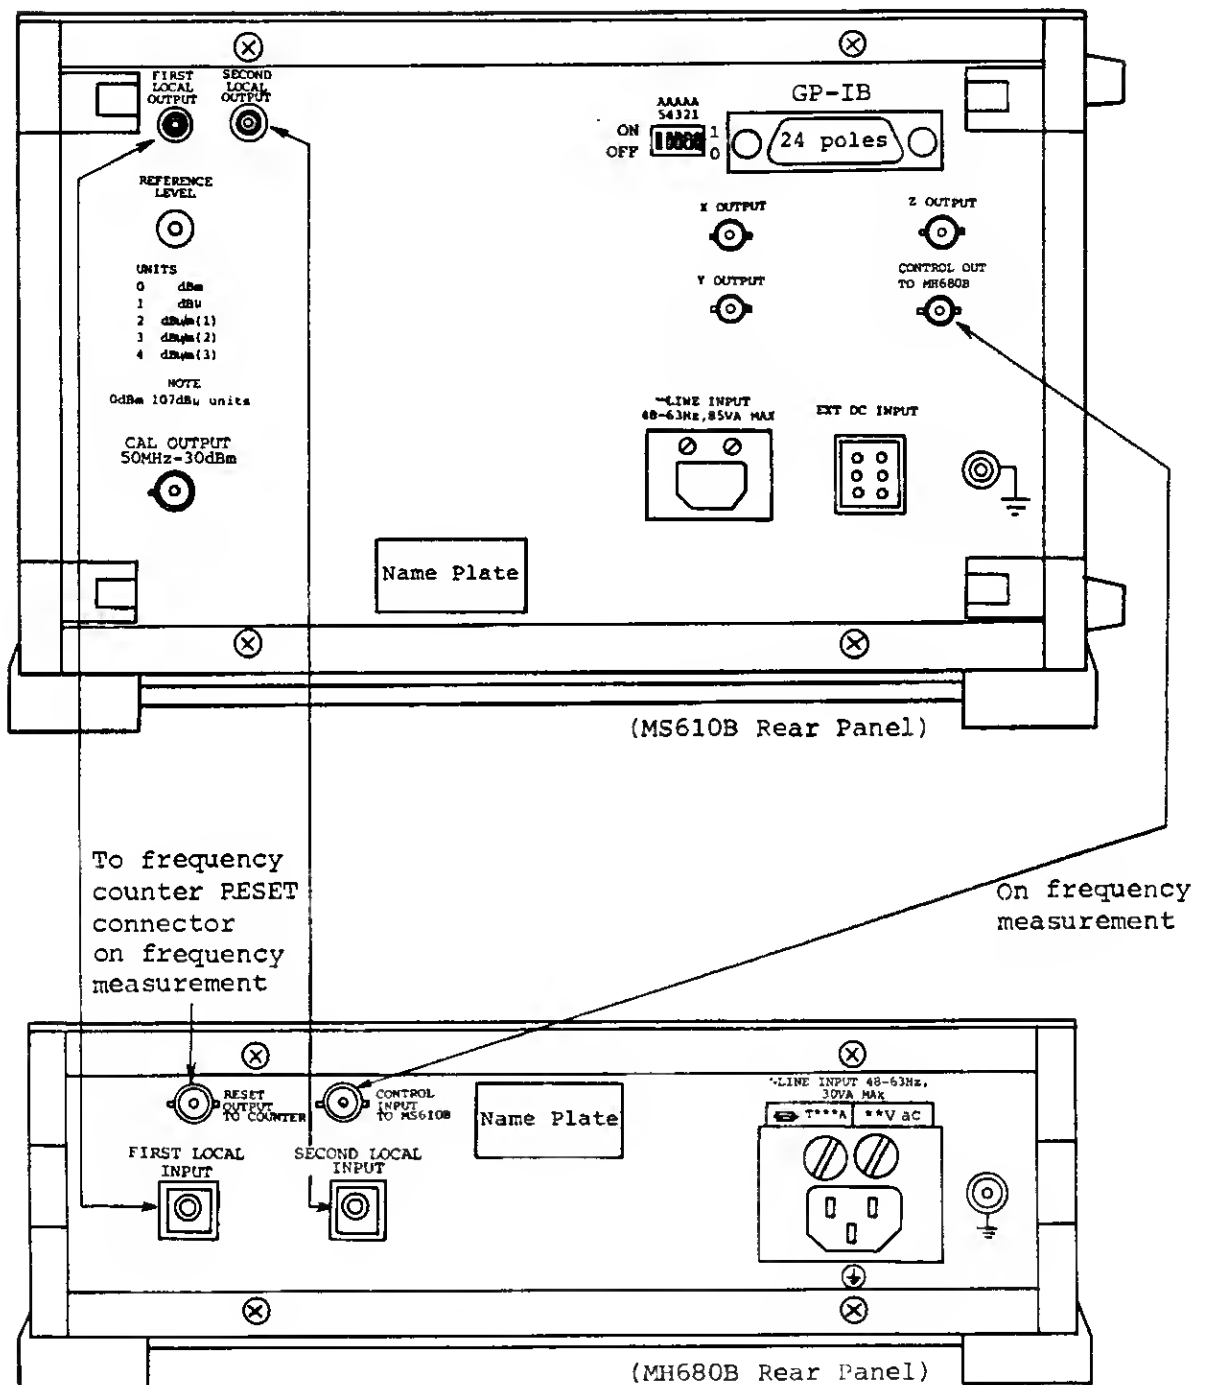

Fig. 3-3 Rear Panel LOCAL INPUT Connections with the MS610B
- (1) As shown in Fig. 3-3, connect the FIRST LOCAL INPUT and SECOND LOCAL INPUT connectors on the MH680B rear panel to the corresponding LOCAL OUTPUT connectors on the MS610B rear panel by using the supplied coaxial cable.